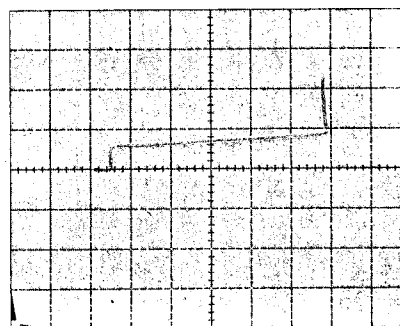

Figure 2-1. + Input bias current.
- 3) Measure Trace — Press UPPER and LOWER STORE buttons on 577 to obtain clear trace. If necessary, press UPPER and LOWER ERASE to clear screen. Check to see that vertical displacement is within specified value [2.5 divs, equal to $.5 \mu\text{A}$] over op amp's specified input common-mode range. Refer to Figures 2-1 and 2-2. **3 2**